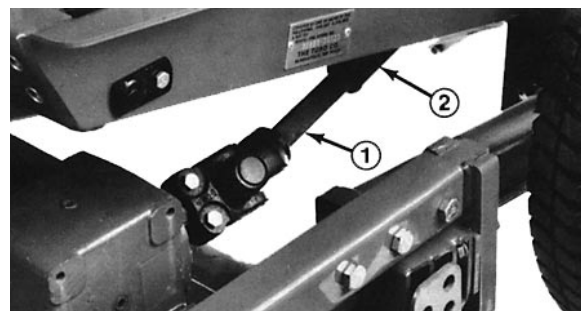

Figure 7
5. Stop engine and slide the cutting unit away from the traction unit and carrier frame, separating male and female sections of the PTO shaft (Fig. 7).